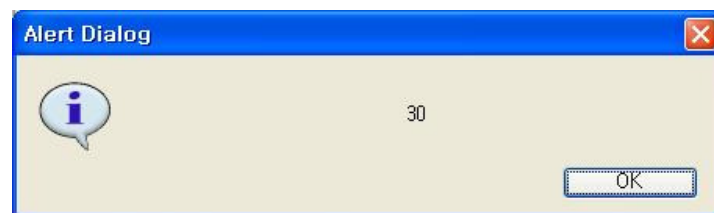

Figure 8
⑧ Run program, the result is shown as Figure 8.